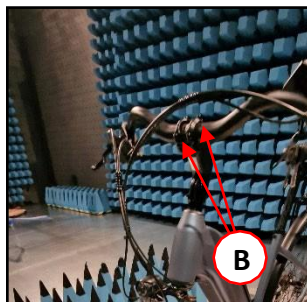

Figure 2 – Fixing screw and handlebar rotation.
5. Unscrew the four screws on the handlebar connection and rotate the handlebar to the desired position. Once the handlebar has been adjusted, fix the four screws (Ref. B in Figure 2).